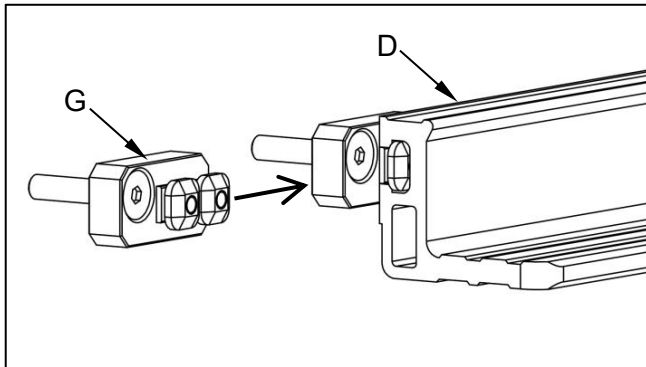

Fig. 10
1. Loosen the square nuts and install the Rear Rail Mounting Block Assemblies (G) onto the Rear Rail (D) in the direction shown in Fig. 10.